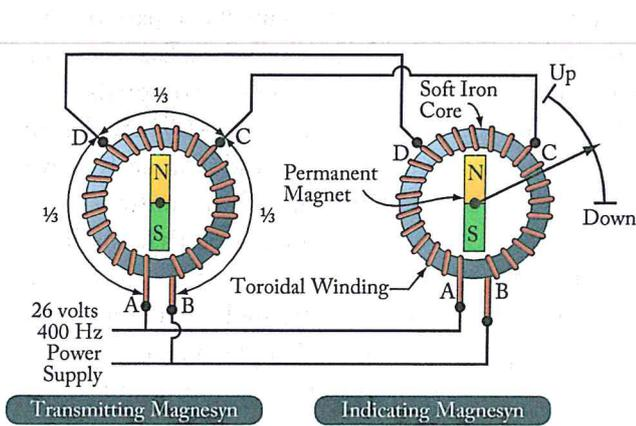

Figure 3-9. A magnasyn synchro remote-indicating system uses AC. It has permanent magnet rotors in the transmitter and indicator.
Aircraft with Alternating Current (AC) electrical power systems make use of autosyn or magnasyn synchro remote indicating systems. Both operate in a similar way to the DC selsyn system, except that AC power is used. Thus, they make use of electric induction, rather than resistance current flows defined by the rotor brushes. Magnasyn systems use permanent magnet rotors, such as those found in the DC selsyn system. Usually, the transmitter magnet is larger than the indicator magnet, but the electromagnetic response of the indicator rotor magnet and pointer remains the same. It aligns with the magnetic field set up by the coils, adopting the same angle of deflection as the transmitter rotor. [Figure 3-9] Again, the flight control surface, or other unit whose position is being monitored, is attached to the transmitter rotor.